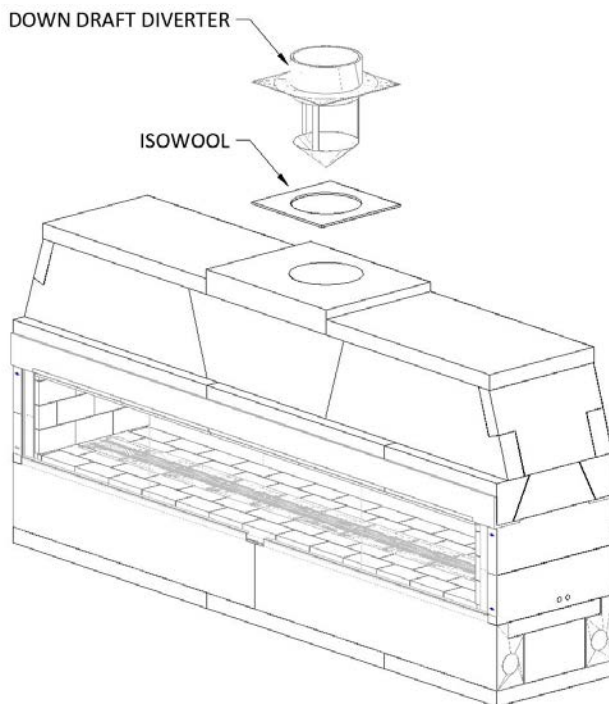

FIGURE 20
- 2) Center the Isowool blanket over Isokern Top Plate's outlet and trace the outlet's outline with a pen or marker. Cut a hole in the blanket along this outline to match the hole in the Isokern top plate. Center the cut Isowool blanket over the Isokern Top Plate flue opening, then center anchor plate over the Isowool blanket (**Figure 20**).
- 3) Secure the Anchor Plate with four (4) masonry anchors.